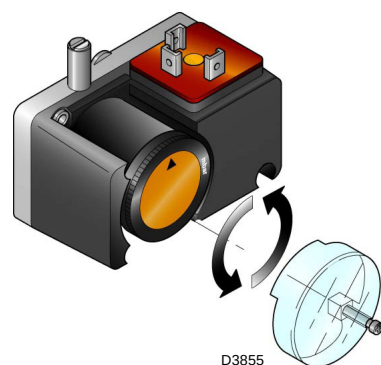

Fig. 31
- Adjust the minimum gas pressure switch (Fig. 31) to the start of the scale.
Adjust the minimum gas pressure switch after performing all the other burner adjustments with the pressure switch set to the start of the scale (Fig. 31).